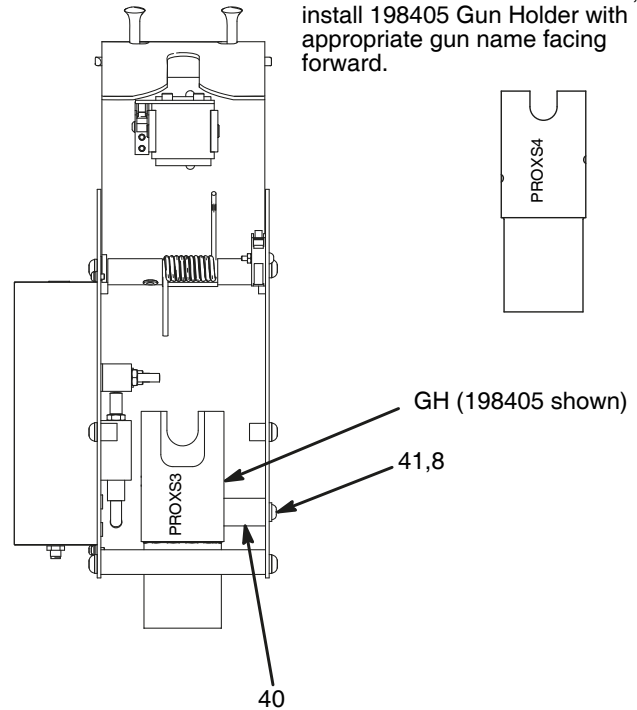
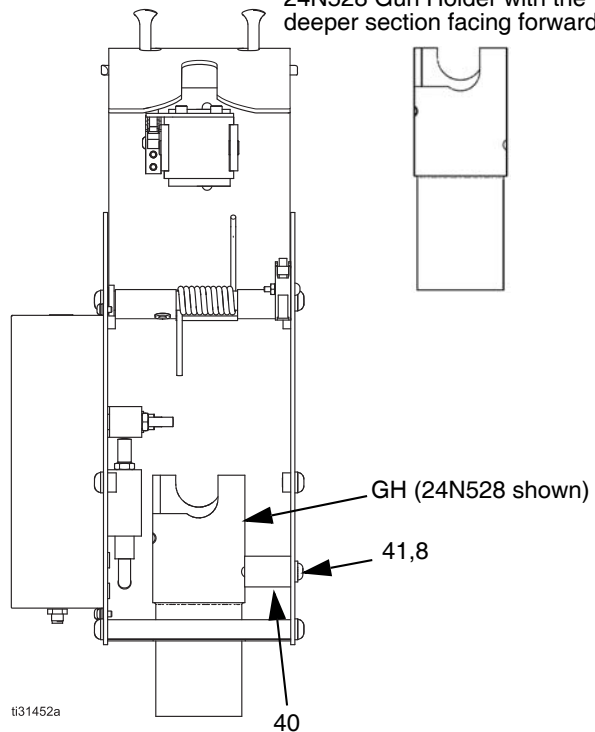

FIG. 4: Gun Holder Installation (Pro Xs3 and Xs4 Guns)
FIG. 5: Gun Holder Installation (Pro Xp 60kV Gun)
2. Remove the two screws and washers (41, 8) holding mounting bracket (40) to the right-hand side of the Gun Flush Box. See FIG. 4 or FIG. 5.
3. Install the gun holder (GH), aligning its mounting holes with the holes in the mounting bracket (40) and the side of the Gun Flush Box. Attach using the screws and washers (41, 8).